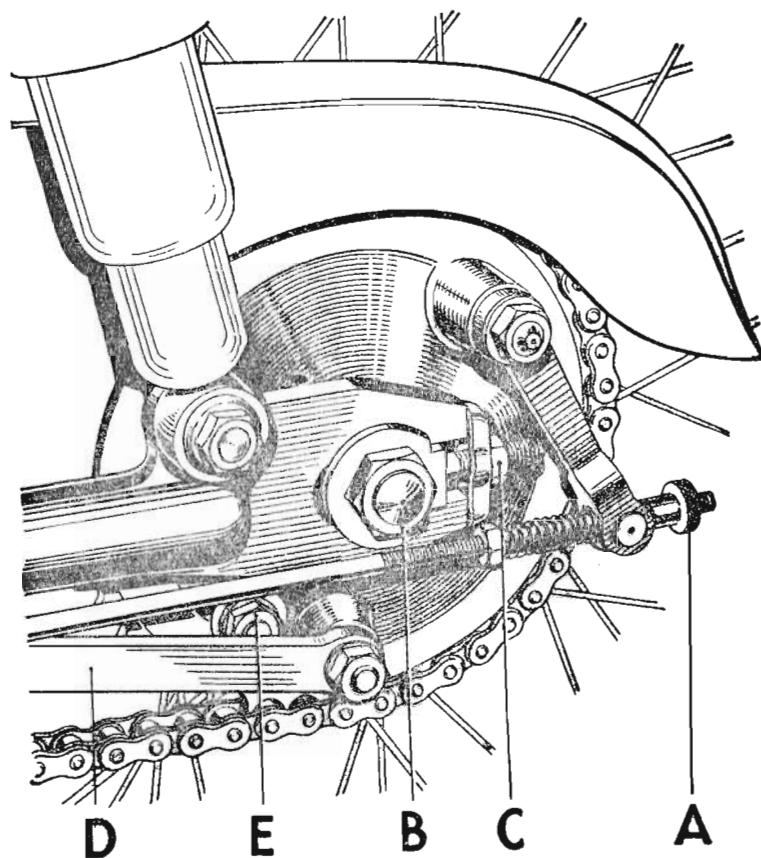

Fig. 17. *Rear chain adjustment.*
The rear brake is adjusted by turning the self-locking sleeve (A), Fig. 17, in a clockwise direction (viewed from the rear of the machine), to shorten the effective length of the brake rod, and open the shoes in the drum.
Place the machine on its stand and disconnect the rear chain at its spring link. When removing the chain from the rear brake drum, make sure that it remains on the gearbox sprocket. Remove the brake rod adjusting nut (A) Fig. 17, followed by the anchor arm (D), and disconnect the speedometer cable at its union on the worm-drive housing. Now unscrew the wheel spindle nuts (B), so that the wheel can be withdrawn rearwards from the swinging arm fork ends. It will be necessary to cant the machine to the left side, so that the wheel can be taken out from under the right side of the mudguard.
Rear Chain Adjustment (Fig. 17).
When new shoes have been fitted, the brakes must be centralized. To do this, replace the brake cover plate, complete with shoes, fulcrum pin and cam, in the brake drum. Slacken the fulcrum pin nut (E) Fig. 17, and turn the cam so as to open the brake shoes in the normal manner. The fulcrum pin will then move in its housing until both shoes are pressing equally on to the drum. Tighten the fulcrum pin nut firmly and release the brake.